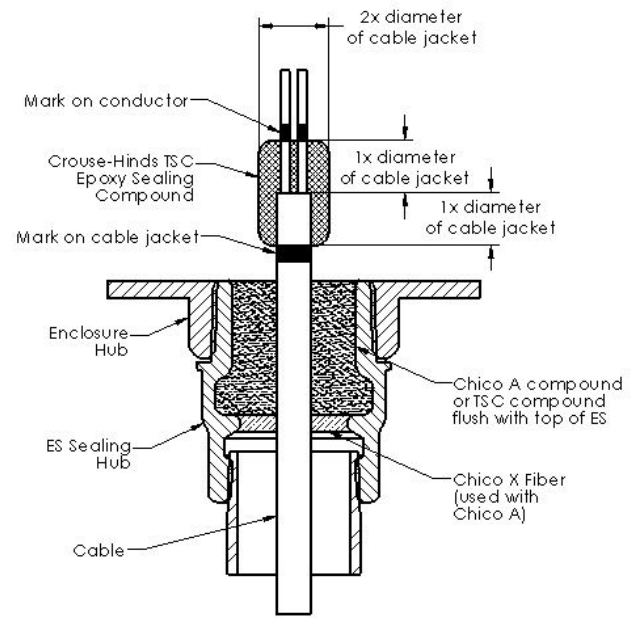

Figure 4
Pull sufficient cable through the conduit and into the enclosure to ensure that the cable can be sealed in the ES Hub and the TSC Epoxy can be applied to the end of the cable. See Figure 4.
- With the TSC Sealing Compound surrounding each conductor, build up the thickness of the sealing compound to the marking on the conductor. The TSC Sealing Compound must extend from the cable jacket to the marking on the conductors. See Figure 4.
- Build up the diameter of the TSC Sealing Compound to two times the diameter of the cable jacket. Figure 4 shows the completed installation.